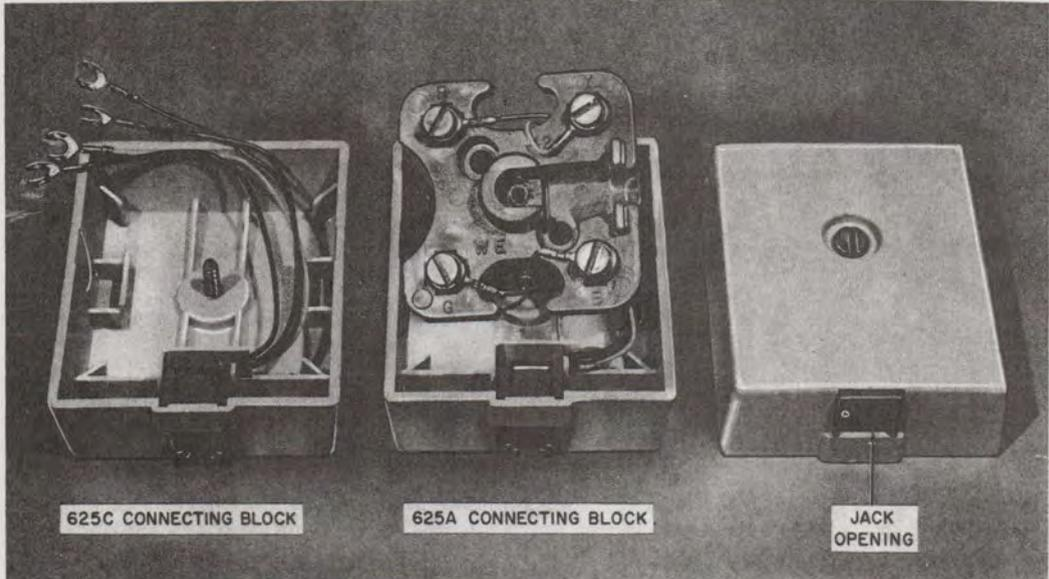

Fig. 1—625A- and 625C-Type Connecting Blocks
- Block, Connecting, 625A (Fig. 1)
- Block, Connecting, 625C (Fig. 1)
**2.02** The **625A** connecting block (Fig. 1) is intended for new installations and is surface mounted. It contains a 42A connecting block base assembly which is used to terminate inside wire and spade-tipped leads from the jack in the cover. This connecting block replaces the 42A connecting block and the 549A jack. When mounting the 42A connecting block, leave at least 1/16-inch clearance between the bottom of the cover and the molding, carpet, or floor.
**2.04** The **625C** connecting block (Fig. 1) is the same as the 625A connecting block except the 625C does not include the 42A connecting block. The 625C connecting block may be used to convert the 42A connecting block in existing installations to modular installation.
- (a) **Surface-type:** Jack-opening to bottom (Fig. 1). Narrow baseboards will require mounting connecting block opening to left or right side and should be avoided whenever
leads as shown in Fig. 1. Terminals on the connecting block are lettered R, G, Y, and B as shown in Table A. When mounting on masonry walls, a backboard should always be used.
**3.04 625C Connecting Block:** Remove cover from existing 42A connecting block. Connect leads from miniplug connector in 625C connecting block to terminals on 42A connecting block. Dress leads as shown in Fig. 1; terminate leads of connecting block as shown in Table A. Attach